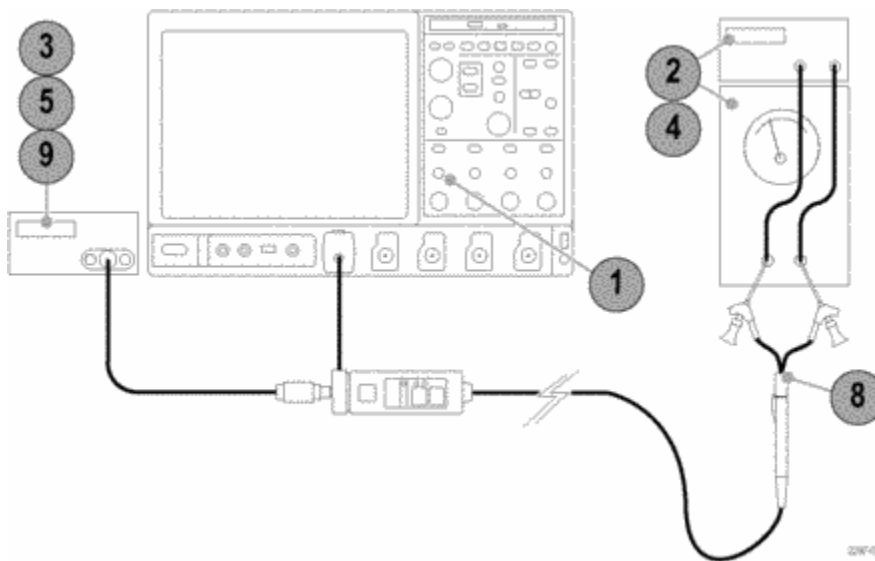

Figure 10: Differential signal range test
2. Set the input voltage on the DC source to 0 V, and verify that it is 0 V with the multimeter. (See Figure 10.)